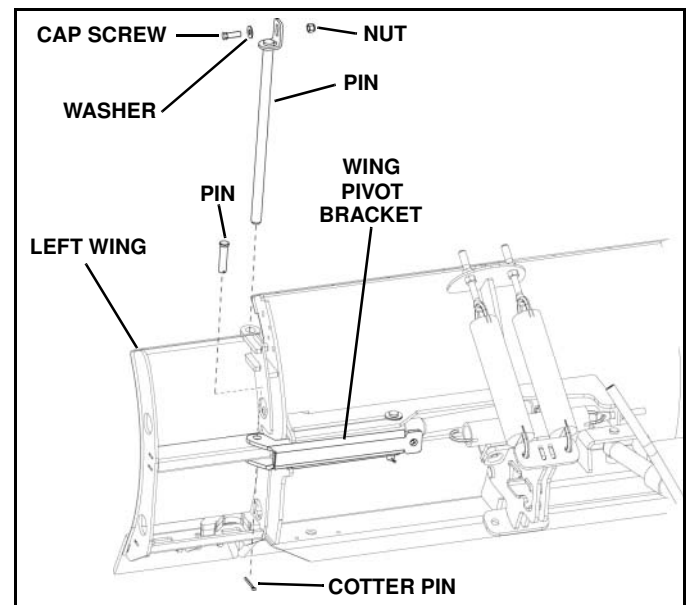

Figure 1-8
9. Align left wing with blade. Coat pin with grease and insert completely through blade and wing. Secure the pin with a 1/2"-13 x 1-1/2" hex head cap screw, two 1/2" flat washers and 1/2"-13 lock nut. (See Figure 1-8).